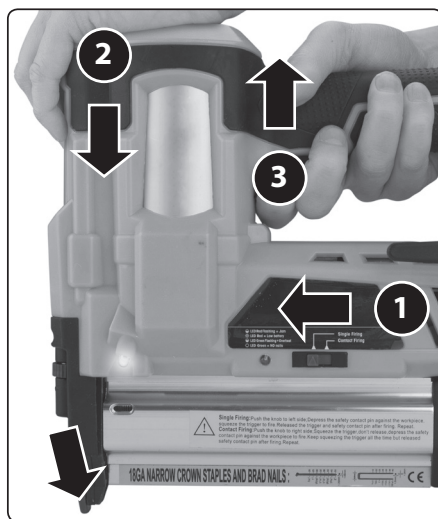
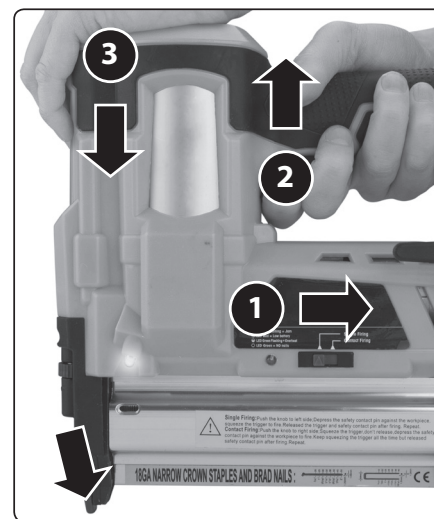

Fig. 4, single shot mode (selective contact triggering)
Fig. 5, continuous shooting mode (continuous contact triggering)
A | The single shot mode (selective contact triggering) (toggle switch position: A). For each individual shot, first push down on the safety mechanism (fig. 1, position 12) of the driving head by pushing the nail/staple gun down against the work surface and then press the trigger of the power tool (fig. 1, position 1). Pressing the trigger of the power tool will cause a nail or staple to be shot out (see fig. 4).
- When pulling the trigger, it is necessary to properly push down the nail/staple gun against the work surface and when the nail/staple is shot out to properly hold it down by the part according to fig. 4 or fig. 5, otherwise the nail/staple may not be properly driven into the material as a result of a loss of impact force when the nail/staple gun is kicked off the work surface.